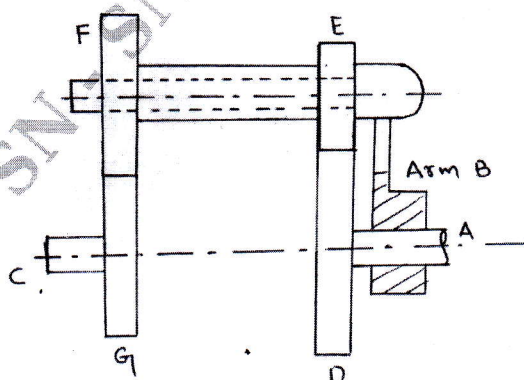

Fig. Q8
- 8 An epicyclic gear train is shown in Fig. Q8, wheel D is held stationary by the shaft A and arm B rotates at 200 rpm. The wheel E (20 teeth) and F (40 teeth) are fixed together and rotate freely on a pin carried by the arm. The wheel G(30 teeth) is mounted on shaft C. Find the speed of shaft C, stating the direction of rotation relative to that of B. If the gearing transmits 7.5 kw, what is the holding torque on shaft A? (16 Marks)